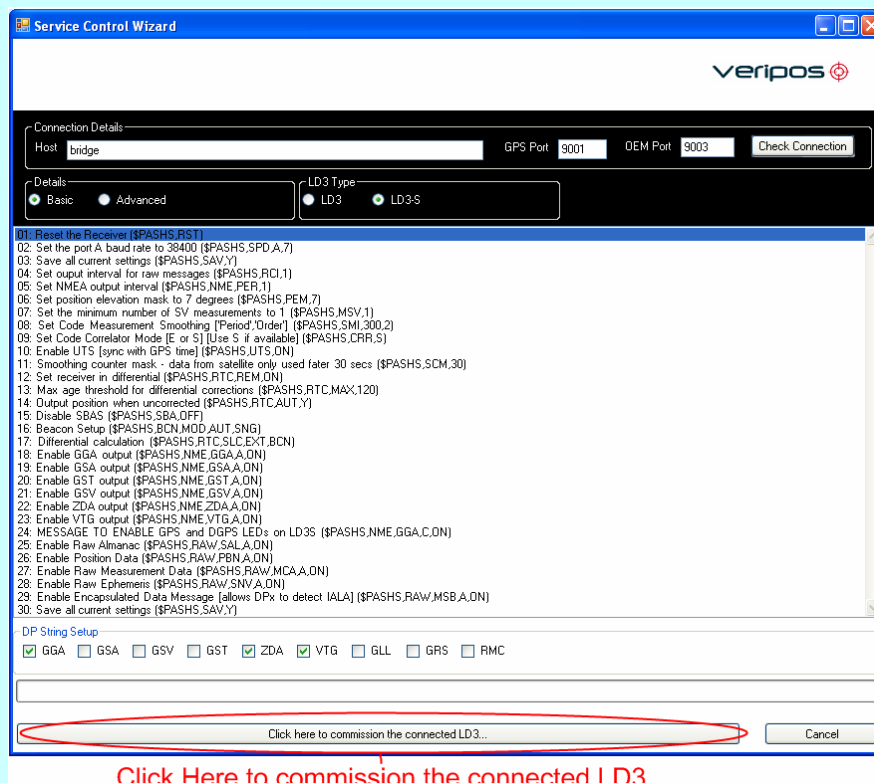

Fig 10 Commissioning Tool – Commission the connected LD3
5.5 Click the Commission the Connected LD3 button, as in Fig 10